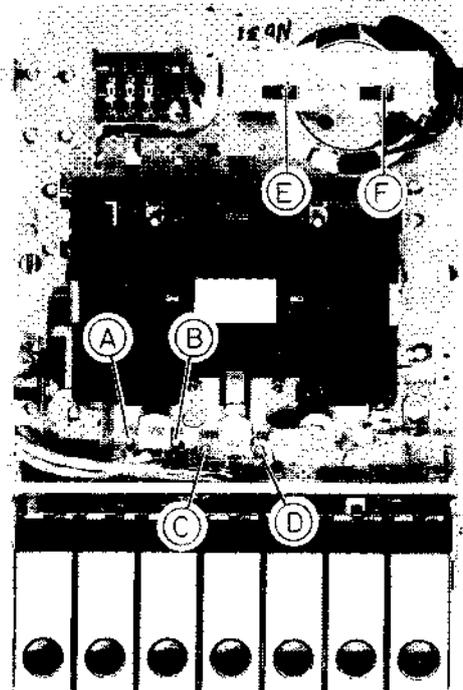

Fig. 11
## TO REPLACE HEAD (Refer to Fig. 11)
5. Adjust the head angle by turning the screw (C) minutely for maximum output. (Refer to Fig. 11 & 13).
3. Set the METER switch (E) to BEAT CUT position and the TAPE SELECTOR switch (F) to NORMAL position (Refer to Fig. 11 & 13).